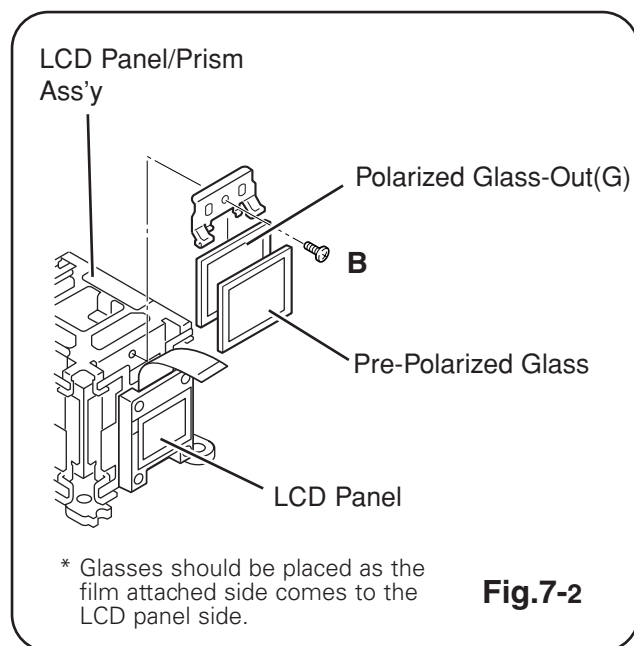

Fig.7-2
Note: The G-LCD panel has a pre-polarized glass is mounted between the polarized glass-out (G) and LCD panel as Fig.7-2.